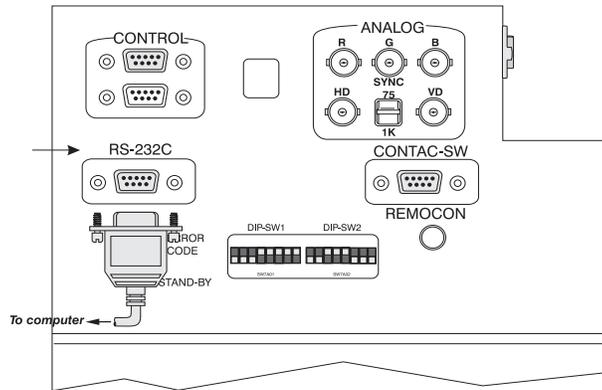

Figure 3.1. RS-232C Port
- 1) Connect one end of the “null modem” serial communication cable to the source (computer or controller) and the other end to the RS-232C port. See Figure 3.1.